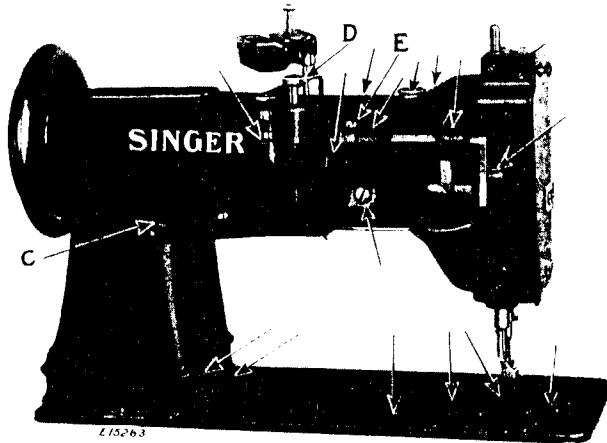
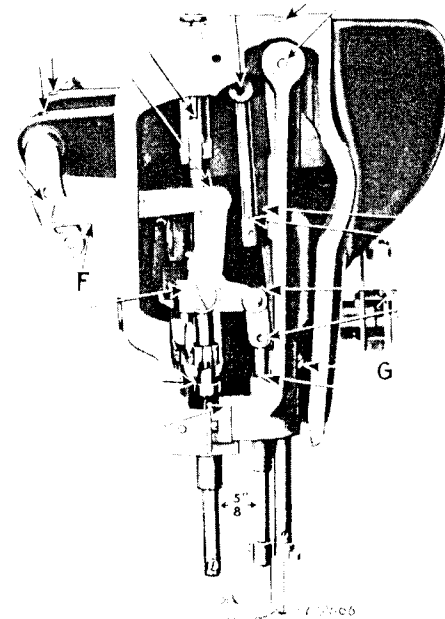

Fig. 3. Rear View of Machine
Fig. 4. End View of Machine Showing Oiling Points
To increase the pressure, turn the thumb screw (D, Fig. 3) at the back of the machine, downwardly. To decrease the pressure, turn this thumb screw upwardly.
In case the needle bar is not correctly set, loosen the needle bar connecting stud pinch screw (G, Fig. 4) and place the needle bar in correct position as directed above, then retighten the screw (G).
The distance between the vibrating presser bar and lifting presser bar, after turning the feed regulating spindle head so that there is no feed movement of the needle bar, should be 5/8 inch as shown in Fig. 4.
If the distance between the vibrating presser bar and the lifting presser bar is more or less, insert a screwdriver in the hole at (C, Fig. 3) at the rear of the machine and loosen the clamp screw which holds the needle bar rock frame rock shaft. While this screw is loose, the needle bar frame can be moved forward or backward to the required distance. A piece of metal of the correct width may be used to determine the correct distance. When making this adjustment be sure to see that the feed regulating spindle head is set so that there is no feeding movement of the needle bar. When the adjustment has been made, securely tighten the clamp screw at C.
The height of lift of the pressers is adjustable by moving the link (F, Fig. 4) to any of the four holes in the rock shaft crank. The maximum lift is secured with the link in the bottom hole. The amount of lift of the vibrating and lifting presser feet should be regulated according to the thickness of material being sewn. The feet should lift just high enough to clear the material. As a rule, the vibrating and lifting pressers should lift an equal height, but some grades of work may require that they lift an unequal height. To change the relative lift of the presser feet, loosen the screw (E, Fig. 3) at the back of the machine and move the vibrating presser bar upward or downward as required, then securely tighten the screw (E).